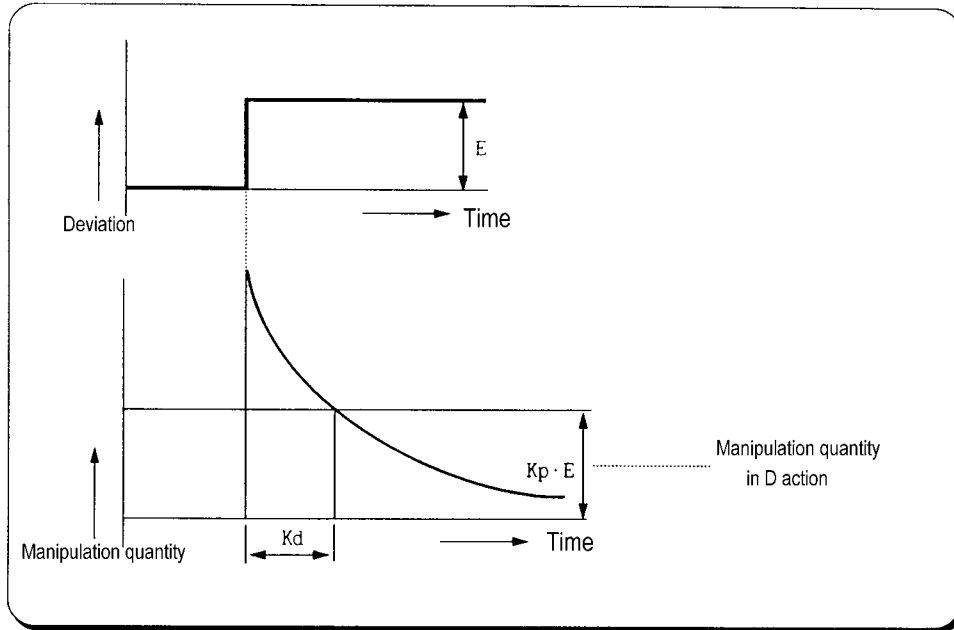

Fig. 7.6 Derivative action with a constant deviation
- ① When a deviation occurs due to alteration of SV or external disturbances, D action restrains the changes of the deviation by producing MV which is proportioned with the change velocity (a velocity whose deviation changes at every constant interval) in order to eliminate the deviation.
- ② D action gives quick response to control action and has an effect to reduce swiftly the deviation by applying a large control action (in the direction that the deviation will be eliminated) at the earlier time that the deviation occurs.
- ③ D action can prevent the large changes of control object due to external conditions.
- ④ The period of time from when the deviation has occurred to when the MV of D action become the MV of P action is called derivative time and represented as T_d .
⑤ The D action when a constant deviation occurred is shown as Fig. 7.6